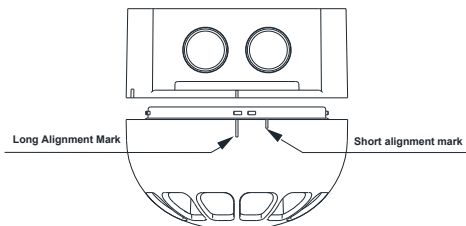

Fig. 3: Fitting the audio/visual alarm device to the backbox
2. Align the device alignment mark with the short alignment mark in the backbox, as shown in Fig. 3.